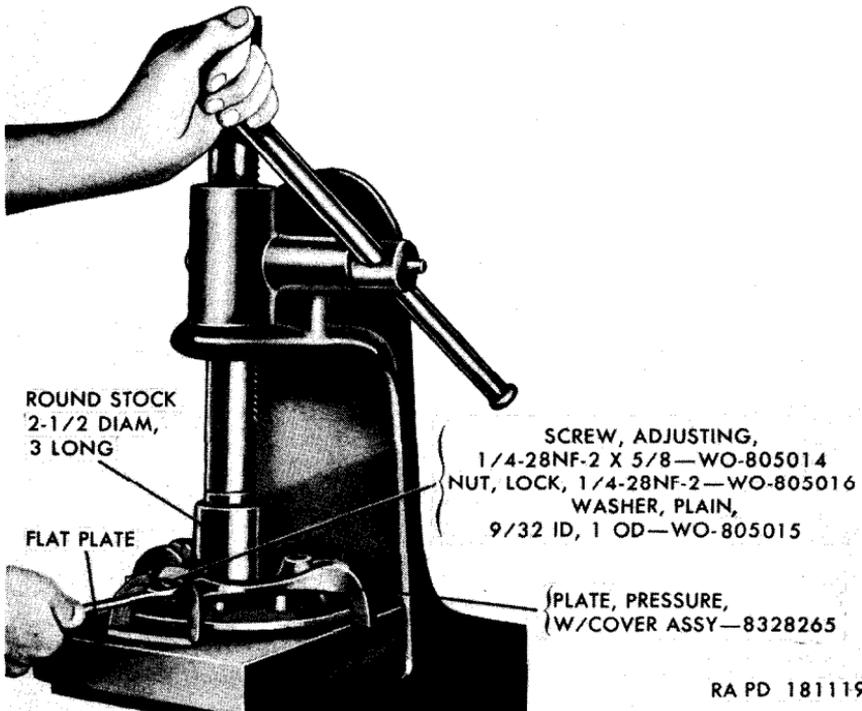

Figure 108. Depressing pressure plate release levers.
a. Install the pressure plate with/cover assembly (fig. 108) in an arbor press on a flat plate large enough to support the assembly at all points. Position a length of round stock approximately 2 $\frac{1}{2}$ inches in diameter on the pressure plate release levers so that it bears on all three levers. Remove the clips from the ends of the release levers.
c. Remove the adjusting screw, lock nut, and plain washer (fig. 108) from the pressure plate. Hold a steady pressure on the levers until all three cap screws are removed. Release the applied pressure slowly, and remove the pressure plate with/cover assembly from the arbor press when the springs have expanded to their full free length.
a. Set the pressure plate (D) on the flat bed of the arbor press (fig. 108) and position the pressure plate cover (E) over the plate. Lift the release levers so that they stand straight up.
b. Install the three pressure plate spring cups (F) in the cover with the indentations in the cups facing the center of the cover.
c. Install a pressure spring (G) and an auxiliary pressure spring (H) (auxiliary pressure spring centered in the pressure spring) in each pressure plate spring cup (F). Install an auxiliary pressure spring retainer (M) on top of each auxiliary pressure spring.
d. Drop the levers over the ends of the springs, and center a piece of 2½-inch diameter, 3-inch long round stock on the levers (fig. 108). Exert a moderate pressure on the levers with the arbor press and secure the pressure plate cover to the pressure plate with a ⅜ ID, 1 OD, plain washer (Q); a ¼-28NF-2 x ⅝ adjusting screw (N); and a ¼-28NF-2 lock nut (P) installed under each of the pressure release levers (fig. 108).
e. Install the pressure plate release lever clips (L) by engaging the slotted underside of the clips under the heads of the adjusting screws (N), and then snapping the clips into place over the ends of the pressure plate release levers (K).